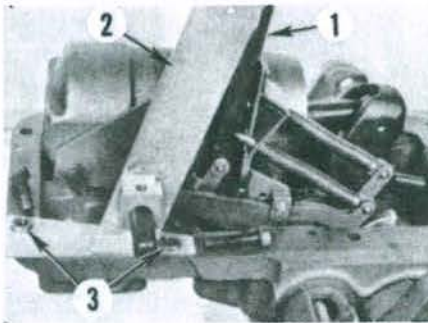

Fig. 219—The special gage tool (MFN 1080-D) shown at (2) should be installed using two Nuday No. 6088 bushings (3) and bolts. Vertical lever is shown at (1).
220. DRAFT CONTROL LINKAGE. To adjust draft control linkage, install special gage tool (MFN 1080-D) onto lift cover using special bushings (Nuday No. 6088) as shown in Fig. 219. Be sure vertical lever (1) is to rear of setting rod on gage tool, then slide Nuday No. 6089 bushing (B—Fig. 222) over the setting rod.